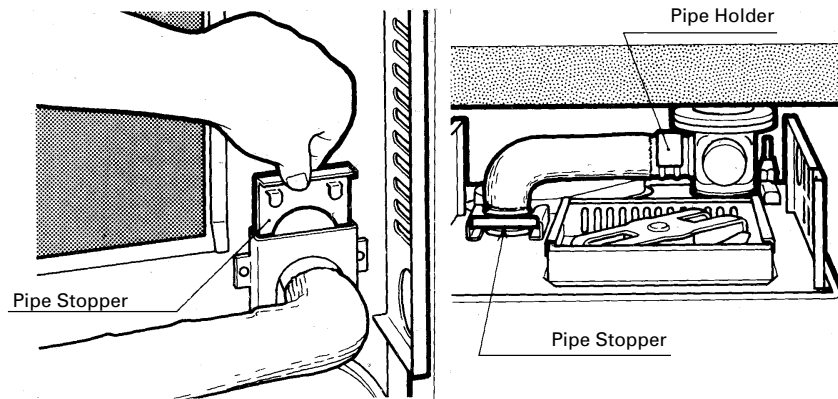

Fig. 12
- Secure the L-shaped hose to the intake inlet opening with the hose band. Secure the bent joint to the standard flue pipe with the pipe holder (If the extension pipe is used, also attach the pipe holder to the connection of the bent joint and the extension pipe). Secure the bent joint (or the extension pipe) to the exhaust outlet opening by sliding the pipe stopper into the exhaust opening bracket (See Fig. 12).